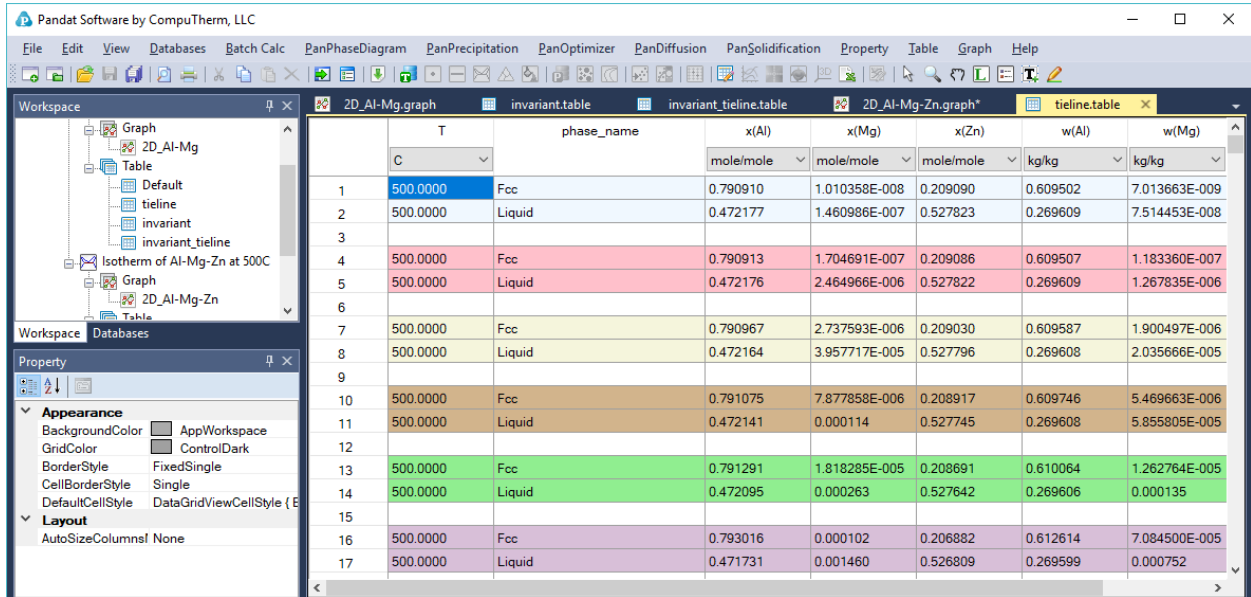

Figure 1.5.3: The tieline table showing the detailed information of calculated tieline
- Equilibrium between two phases is connected by tie-lines, and the equilibrium compositions of the two phases can be read at the end points of the tie-line; Details on the tie-lines can be found in Table->tieline as shown in Figure 1.5.3. In this table, the compositions of the two phases connected by each tieline are listed for all the calculated tielines;